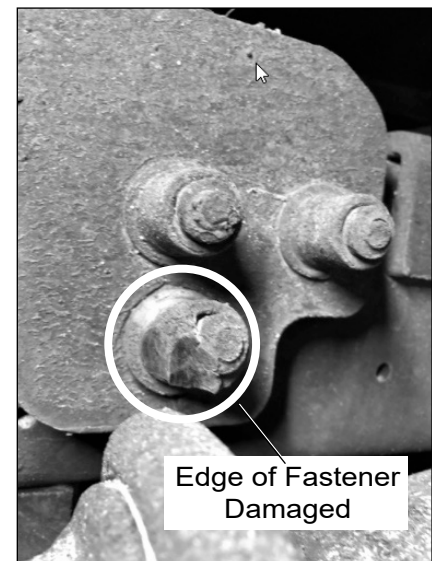

Figure 5 — Damaged Fastener
5. Visually inspect the HuckBolts. If needed, use soap and water or a suitable cleaning solution to remove dirt and debris from the shear plates and HuckBolts. Using a flashlight, look for signs of chassis suspension U-bolt interference with any of the HuckBolts, such as denting or metal chipping (refer to Figure 5).